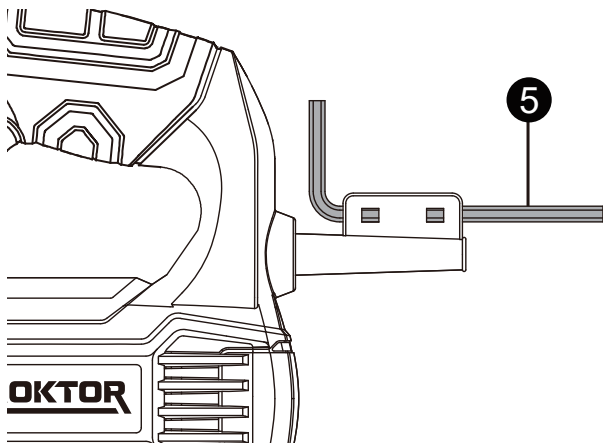

Figure 4
3. HEX KEY STORAGE (SEE FIG. 4)